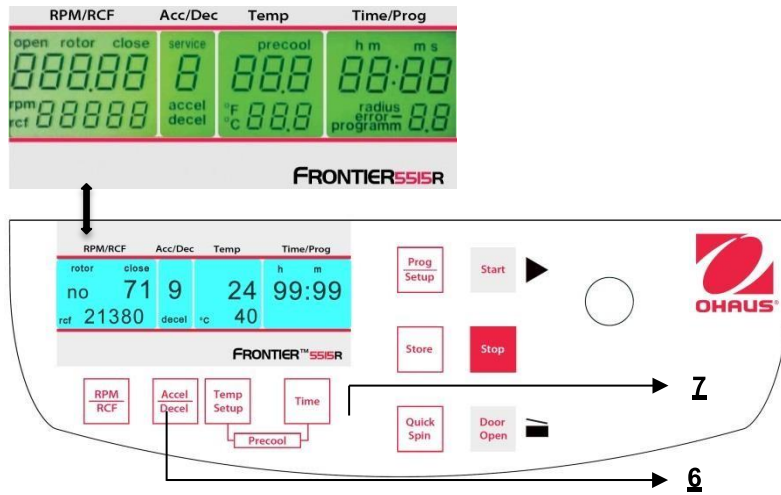

Figure. 30
While the centrifuge is turned off, press simultaneously the keys "Time"(6) and "Door Open" (7) and turn on the main switch of the centrifuge. Now release both keys and as a result a display test is executed for approx. 5 seconds. All indicators will appear at the same time (See figure 30).